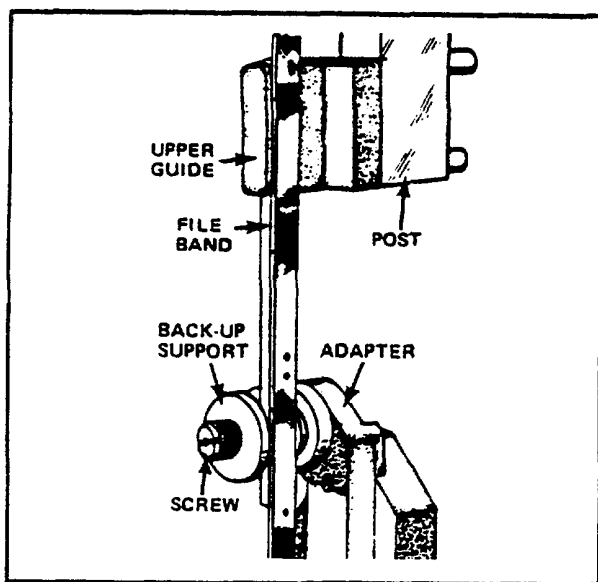

FIG. 43. FILE GUIDE INSTALLATION.
- (1) Remove saw band, table center disk, post band guard, and saw guides. Mount file guide support to lower keeper block. Make sure proper file band slot width is used. See Fig. 43.
- (2) Lower upper post to proper work thickness. This should not exceed 2 inches (50 mm) for 1/4-inch (6.4 mm) band, 4 inches (10 mm) for either 3/8-inch (9.5 mm) or 1/2-inch (12.5 mm) bands. Longer guides that permit greater thickness filing are available as accessories.